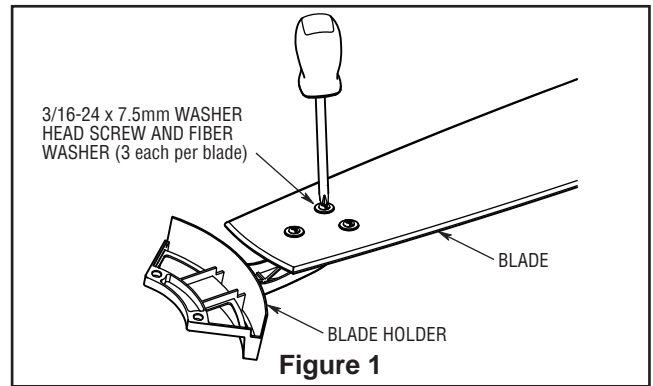

Figure 1
1. Position the blade over the blade holder with threaded posts showing. Make sure the bottom edge of the blade is fully seated against the blade arm. With a Phillips screwdriver, tighten 3/16-24 x 7.5 mm washer head screws and fiber washers to secure the blade to the blade arm (Figure 1).